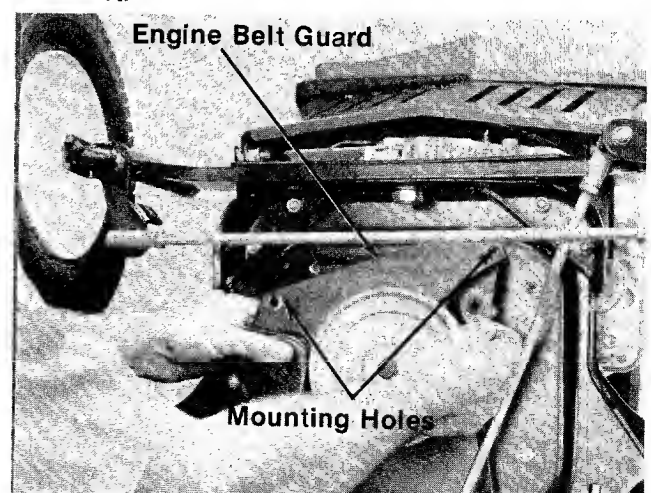

**FIGURE 28.**
6. Remove the front four deck links from the cutting deck. See figure 28.
7. Remove the belt guards from both deck pulleys. See figure 28.
7. Tip the deck down as shown in figure 28.